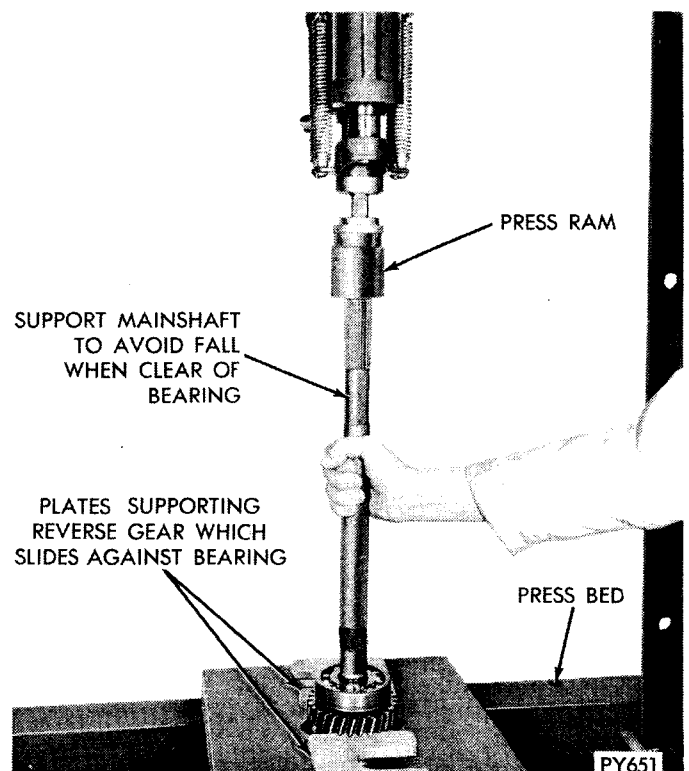

Fig. 20—Pressing Off Mainshaft Bearing
(6) Set up parts in arbor press to force bearing off mainshaft. By supporting front side of reverse gear it can push the bearing off shaft as pressure is applied to shaft (Fig. 20). When bearing clears shaft, don't let parts drop through.